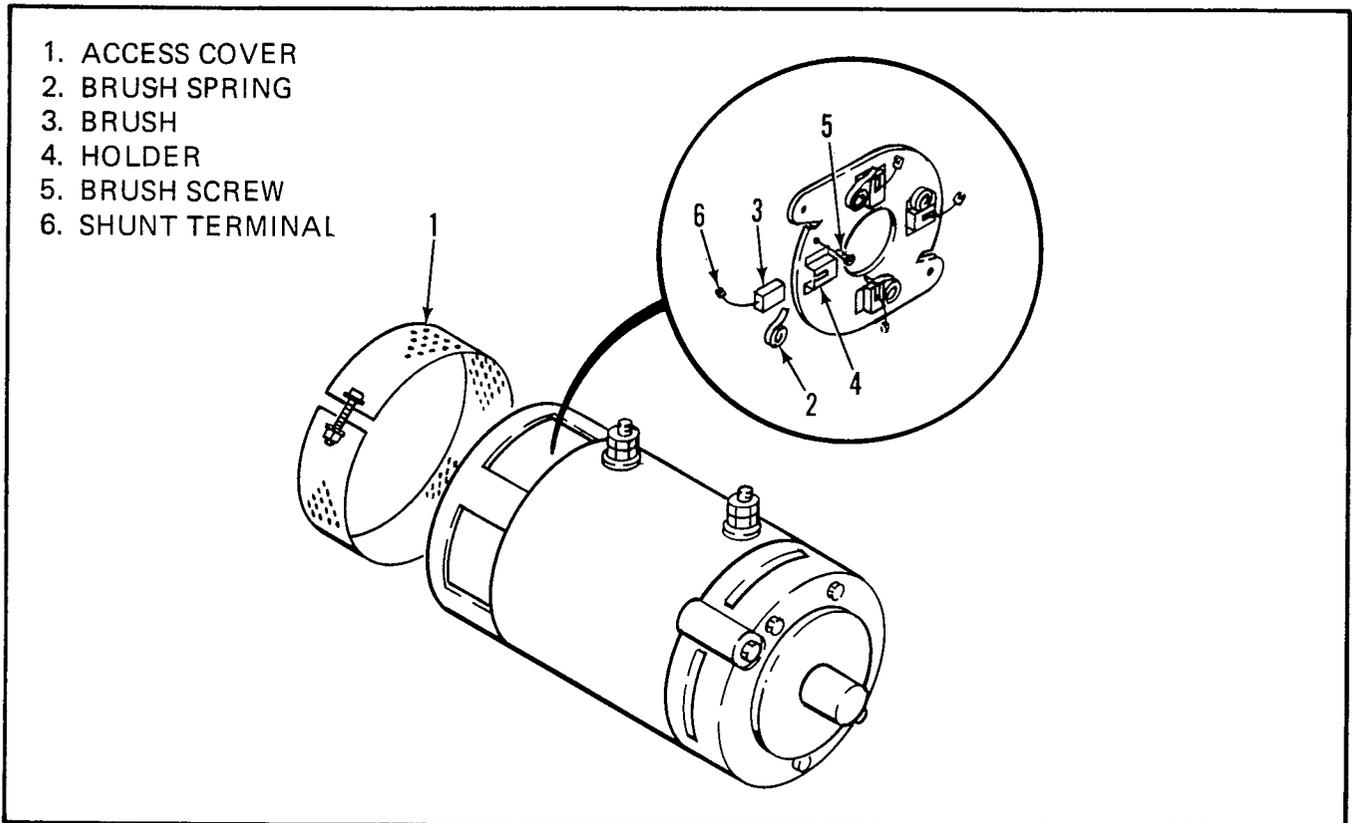

Figure 5-21. Electric Motor
#### 5-26. ELECTRIC MOTOR. (Figure 5-21)
(1) Refer to Figure 5-21 and remove the brush access cover (1).
(2) Lift the brush spring (2) end upwards to slide brush (3) out of the holder (4).